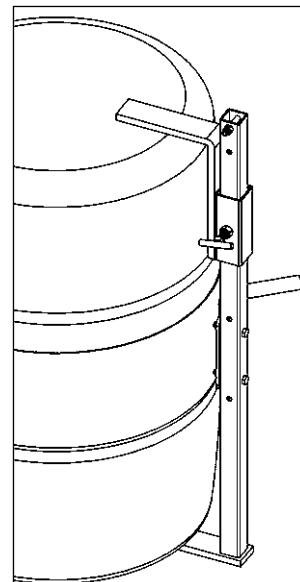

Figure 2.1
- The **Bracket Assembly** (Part # 4556M-P) is **required** to handle a plastic drum without a top rim (see figure 2.1). It is also recommended to more securely handle a fiber drum. You can use the Bracket Assembly with a 55-gallon (210 liter) plastic, steel or fiber drum. The brace at top and bottom of the drum prevent it from slipping lengthways through the drum holder. It adjusts for a drum 31" to 39" (79 to 99 cm) tall.